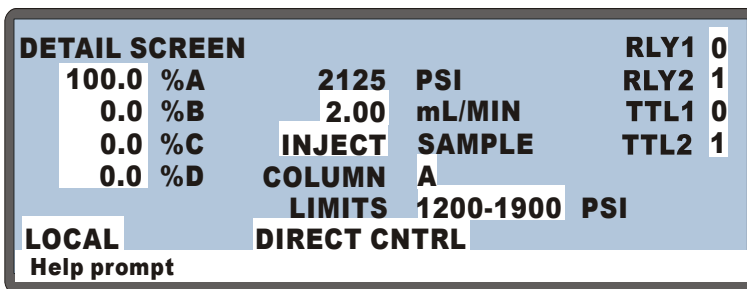

Figure 3-1. Detail Screen: Setting Pressure Limits
- When the pump is running under Local Direct control, enter the pressure limits on the **DETAIL** screen (see Figure 3-1).
1. Go to the **DETAIL** or **METHOD** screen and move the cursor to the **LIMITS** field (see Figure 3-1).